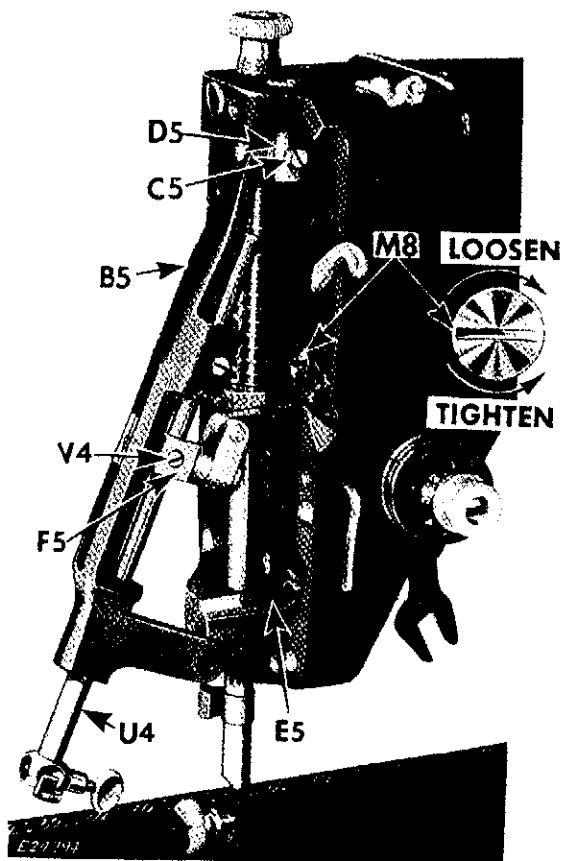

Fig. 69. Needle Bar Holder Removal and Replacement
5. Care should be taken not to lose floating spring **E5**, **Fig. 69** which gives sidewise tension to needle bar holder.
6. Turn hand wheel clockwise until a screwdriver can be easily inserted into slot of cap screw **M8**, **Figs. 69** and **70**. Then turn cap screw clockwise and remove it.
7. Remove hinge screw **C5**, **Fig. 69** from supporting bracket **D5** and remove needle bar holder.
2. Place top of needle bar holder **B5**, **Fig. 69** into supporting bracket **D5**. Then insert hinge screw **C5** and tighten carefully to avoid stripping threads. (Use finger tip pressure.)
3. Place top of connecting link on thread take-up crank and turn cap screw **M8**, **Figs. 69 and 70** counter-clockwise and securely tighten.